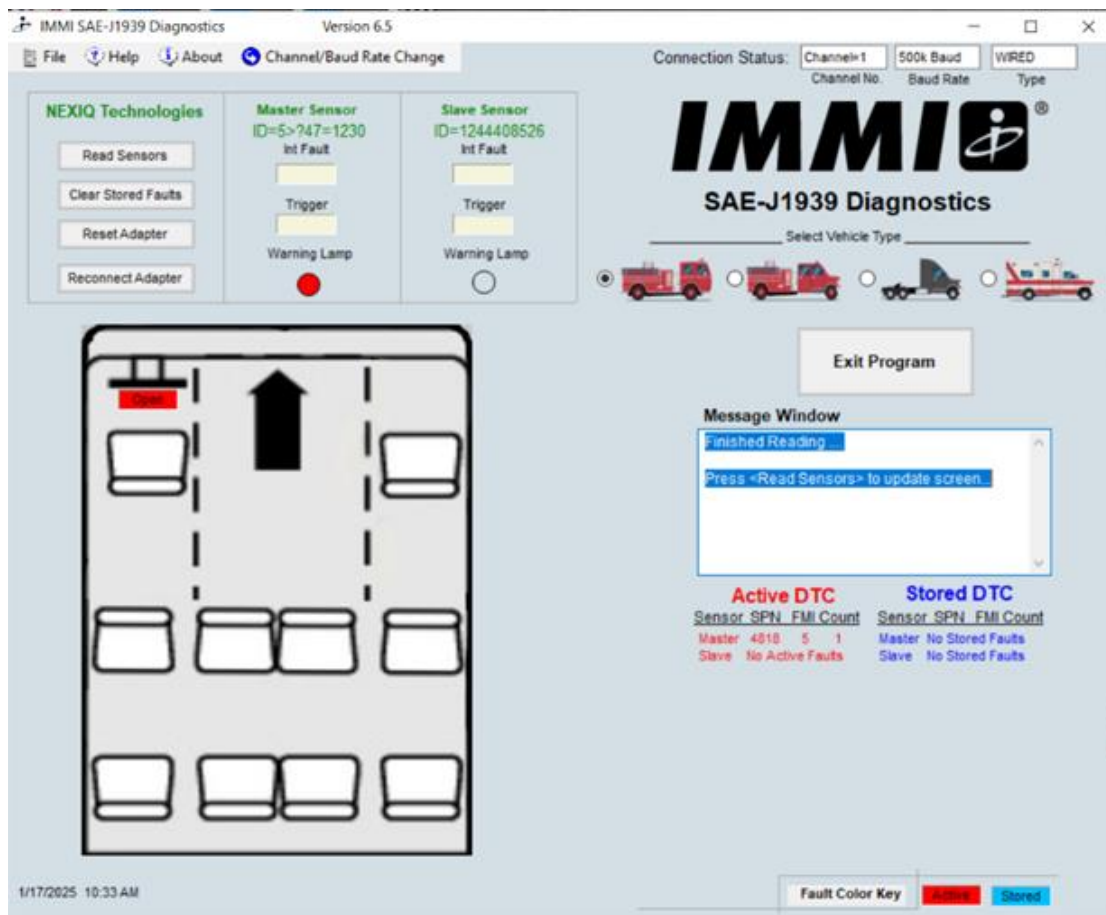

Figure 10.1
18) Select Read Sensors. See Figure 10.1